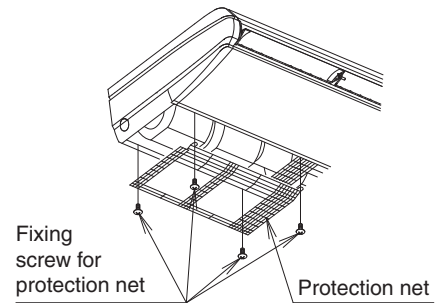
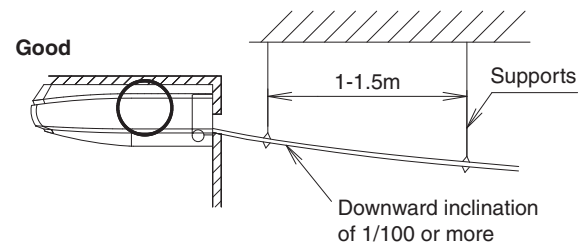

Fig. 22
Fig. 23
After the drain hose (1) (accessory) installing, attach the protection net by reversing the steps taken to remove it. (Refer to Fig. 22)
- Select the piping diameter equal to or larger than that of the drain hose (1) (accessory) (polyvinyl chloride piping, nominal diameter 20mm, outside diameter 26mm).
- Install the drain piping as short as possible with downward inclination of 1/100 or more and without where air may stagnate. (Refer to Fig. 23 and 24)
- Install supports at a distance of 1 to 1.5m so that the piping may not deflect. **(Refer to Fig. 23)**